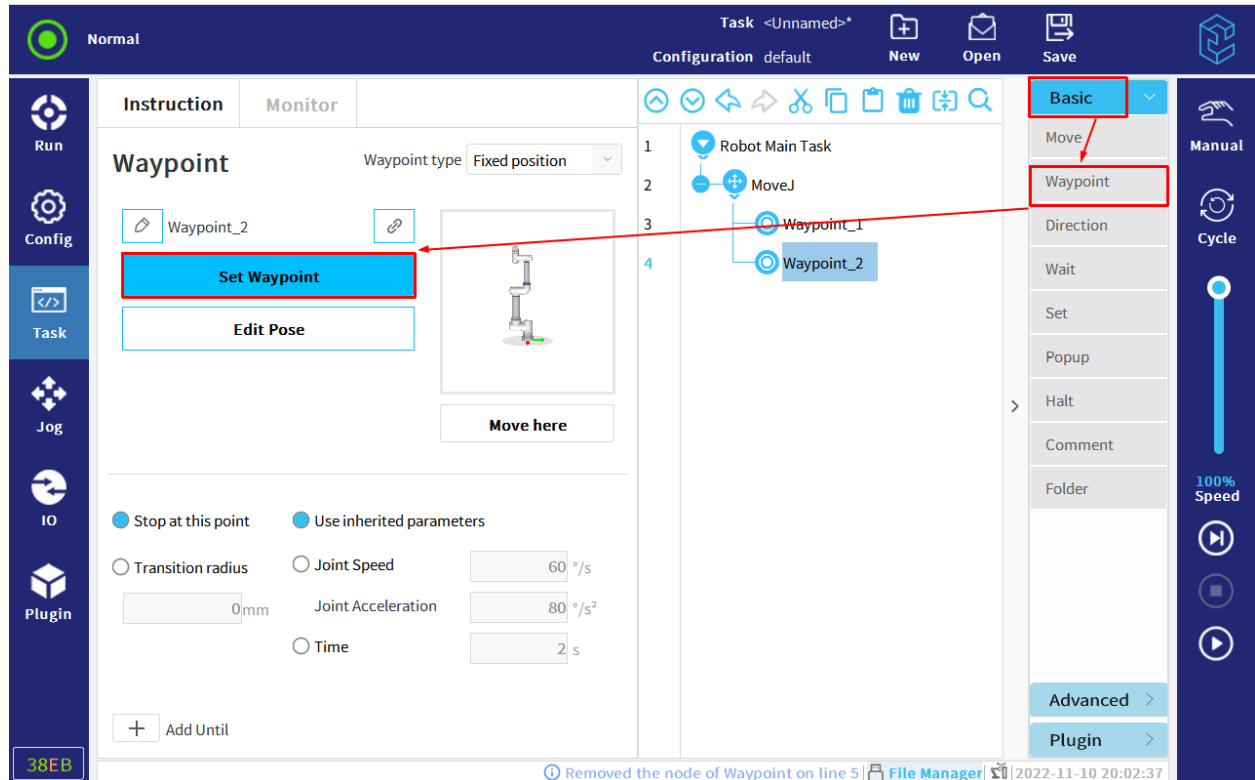

Figure 12-9 Waypoint
The waypoints are the core element of the robot task, since they are used to record the target points on the path for the robot to reach. The Waypoint can be insert as shown in Figure 12-9.
5. After setting, the waypoint node is displayed in blue, as shown in Figure 12-9.